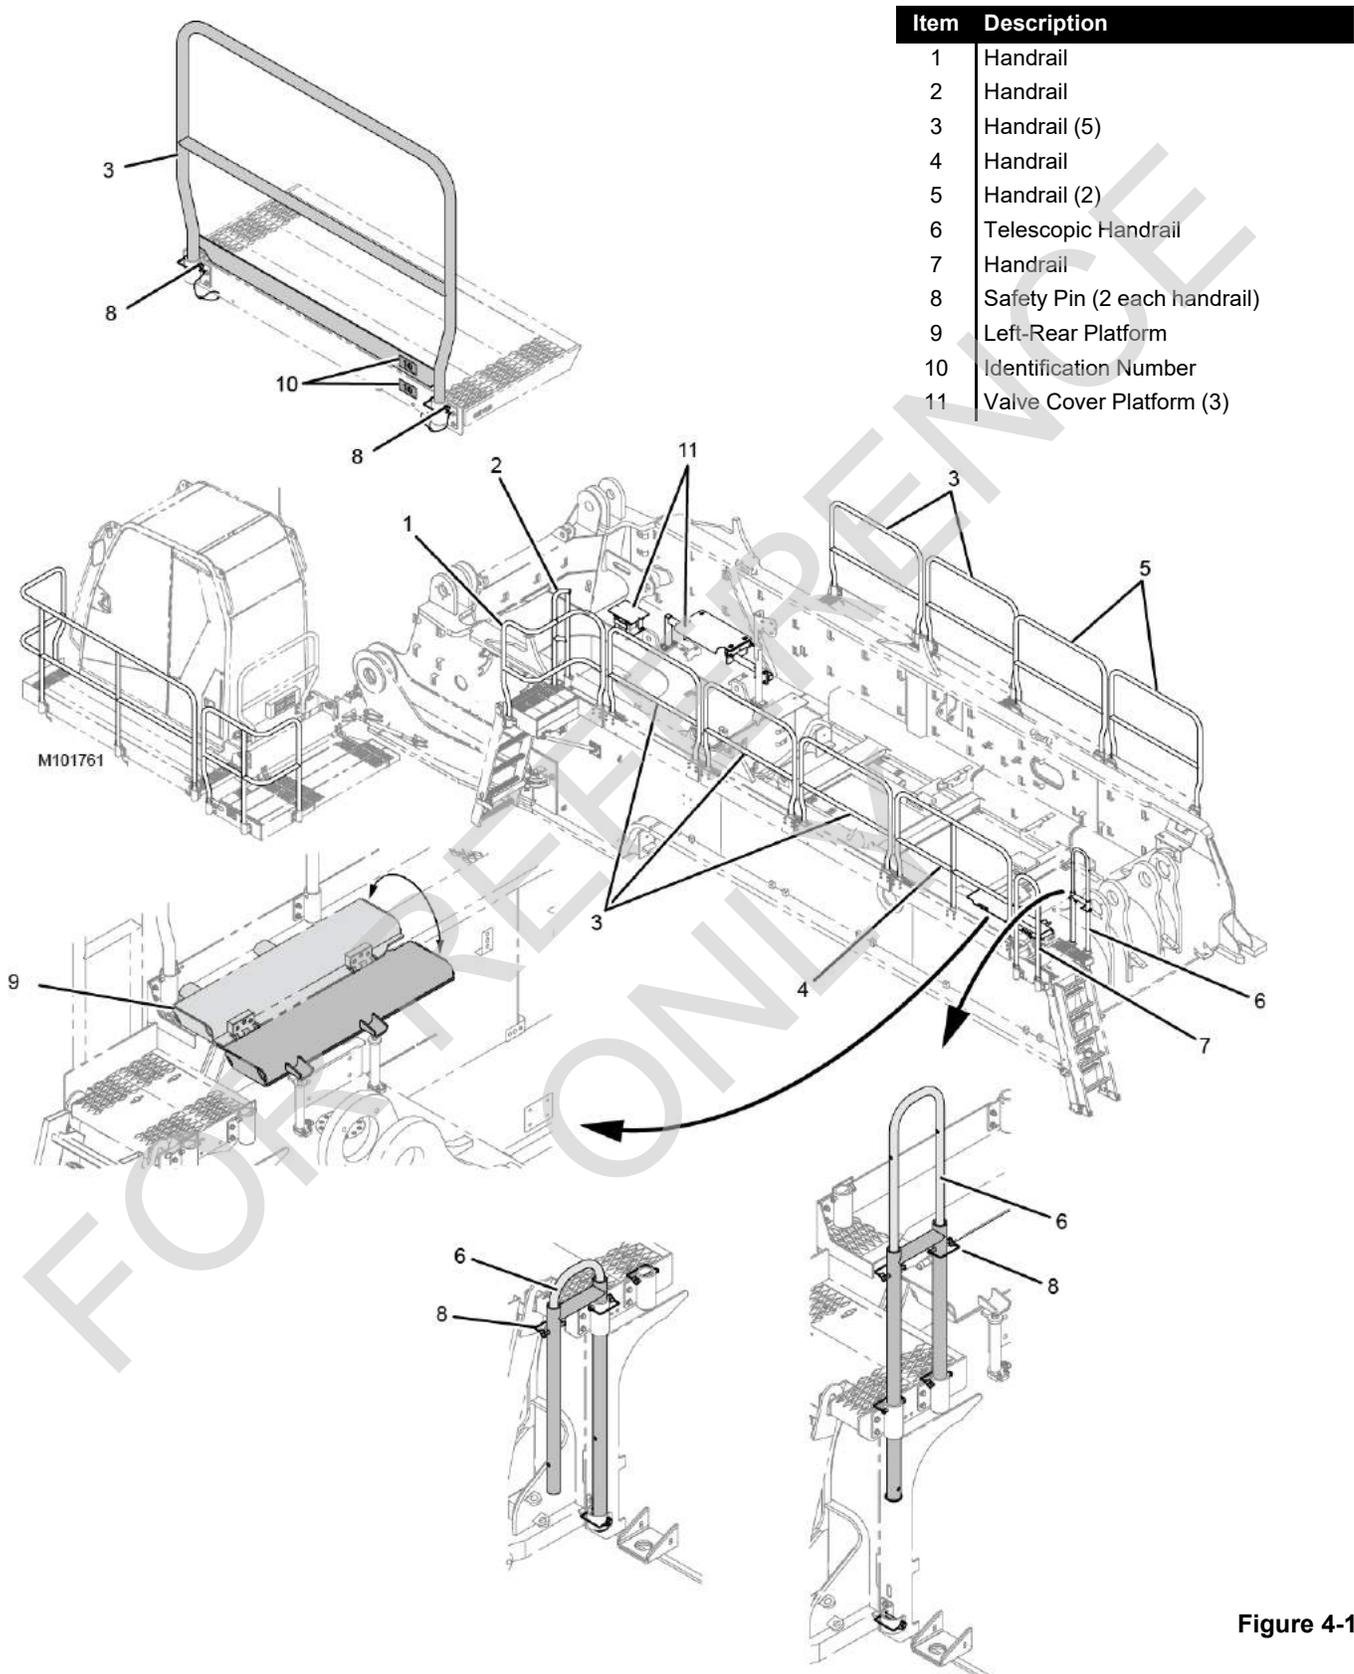

Figure 4-17
See Figure 4-17 for the following procedure.
1. Rotate the left-rear platform (9, Figure 4-17) from the stored position to the working position.
2. Extend the handrail (6, Figure 4-17) from the stored position and pin it in the working position.
Three valve cover platforms (11, Figure 4-17) are located in the rotating bed.